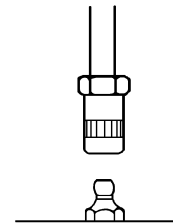

Fig.2
- 2) Press hydro coupler onto grease nipple in axial direction to connect them together. (Fig.2)